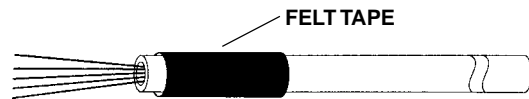

FIGURE 25 - APPLY FELT TAPE TO BUFFER TUBES
- 10.07 For buffer tubes, wrap one layer of felt tape (supplied with Splice Tray) around the buffer tubes at the end where it will be placed in the entry slots. (Figure 25)